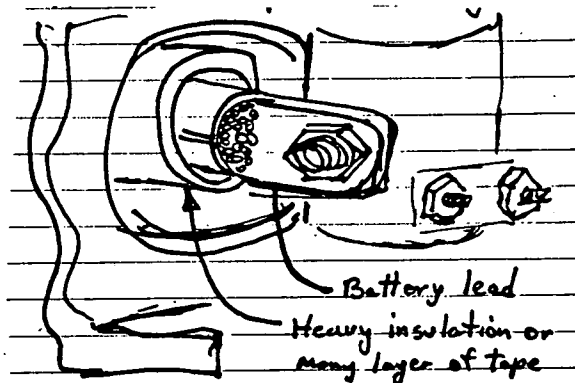

FIGURE 7. Protecting Positive Battery Cable Connection at Start Solenoid.
6. Positive battery cable routing and connection to generator set start solenoid MUST be insulated and clamped to prevent chafing. See Figure 7.